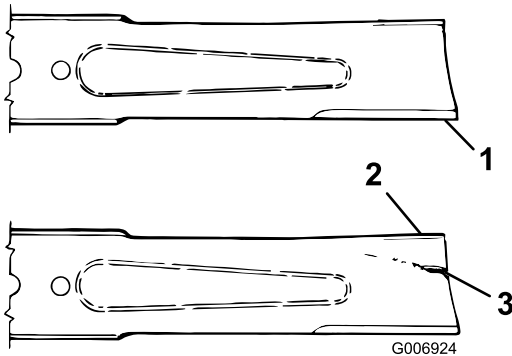

Figure 69
2. Examine the cutting ends of the blade carefully, especially where the flat and curved parts of the blade meet (Figure 69). Since sand and abrasive material can wear away the metal that connects the flat and curved parts of the blade, check the blade before using the machine. If wear is noticed (Figure 69), replace the blade; refer to Removing the Cutter Blade.
If the blade is allowed to wear, a slot will form between the sail and flat part of the blade (Figure 69). Eventually a piece of the blade may break off and be thrown from under the housing, possibly resulting in serious injury to yourself or bystanders.